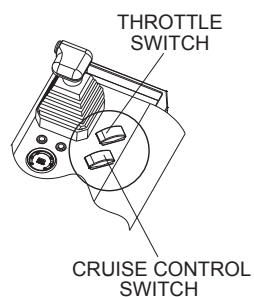

Figure 23. Engine Shutdown
1. Return the throttle switch (Figure 23) to idle and allow the engine to idle for 5 minutes.